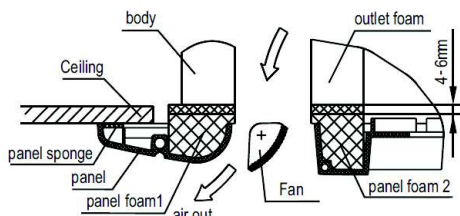

Fig. 4-23
- Keep fastening the screws under the panel hooks, until the thickness of the sponge between the body and the panel's outlet has been reduced to about 4~6mm. The edge of the panel should contact with the ceiling well. (Refer to Fig.4-23)